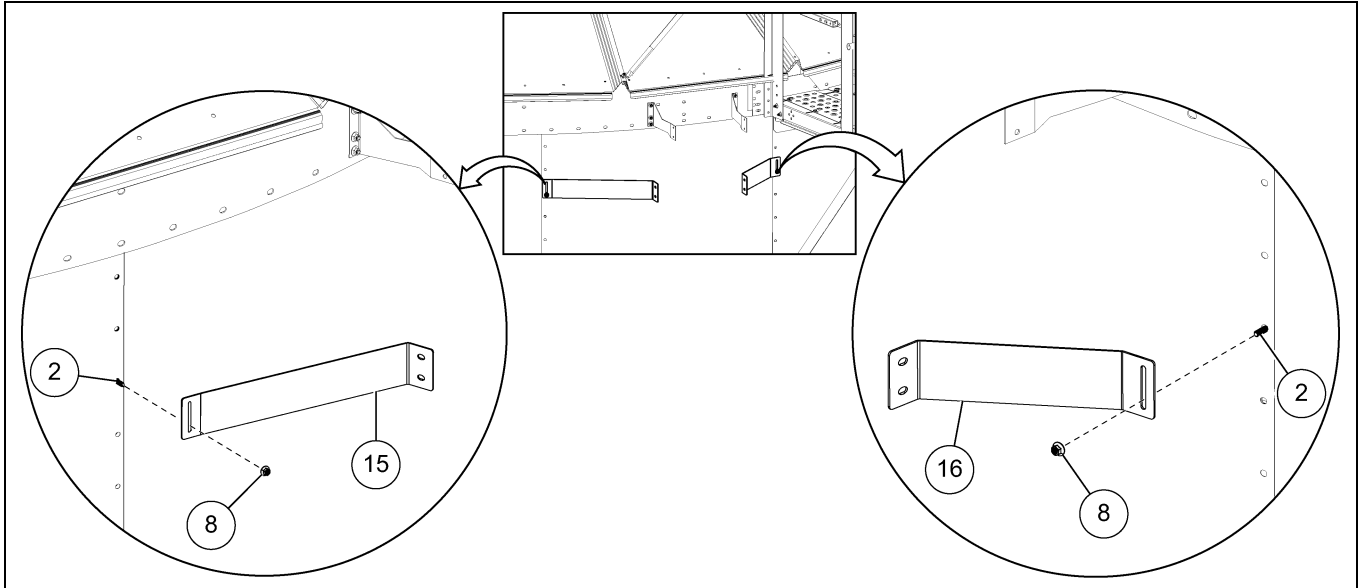

Figure 7B Installing the Ladder Brace Brackets
2. Install the slotted end of the left ladder brace bracket (15) and right ladder brace bracket (16) to the vertical channels using 5/16" x 1" flange bolts (2) and 5/16" flange nuts (8). (See Figure 7B.)